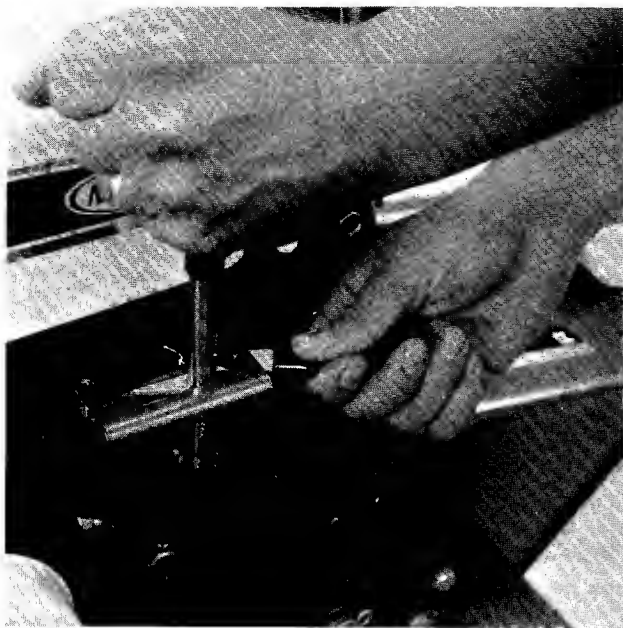

FIGURE 16. PARKING BRAKE
c. **Parking Brake.** To set the parking brake, pull the parking brake lever back and hold it in the locked position while moving the locking arm to the left. See figure 16.